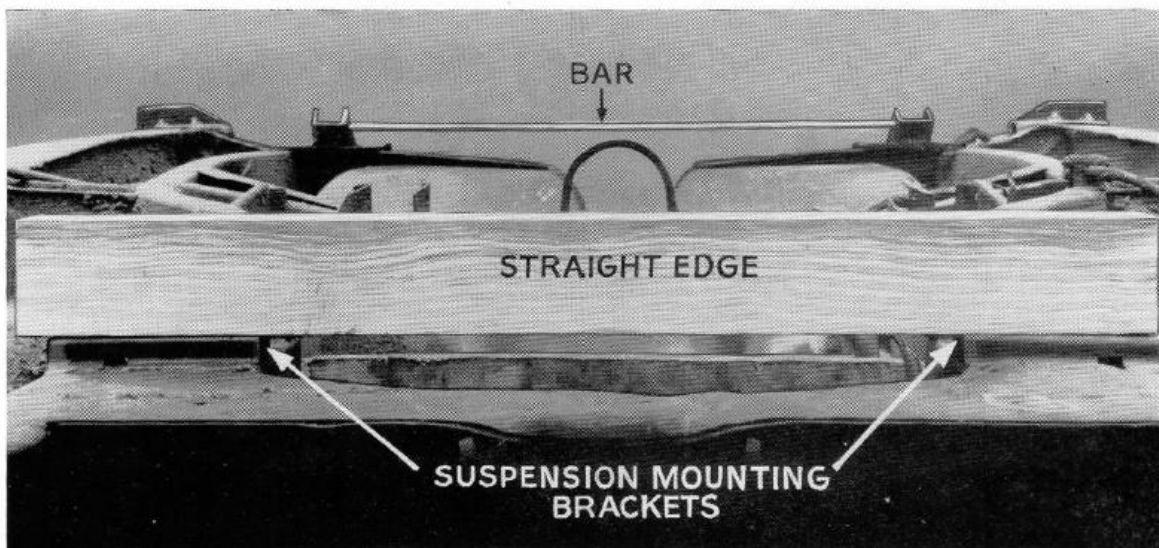

Fig. 12. Bar and top of straight edge when viewed from the front in a horizontal plane, should be parallel with one another.
3. Place a straight-edge laterally across the frame and resting on the forward pair of front suspension abutment brackets (there being four pairs of such brackets) and take a slight reading, as shown in Fig. 12, with the 7/16 in. bar through each rear spring bracket. The bar and top of straight-edge, when viewed from the front in a horizontal plane, should be parallel to one another.